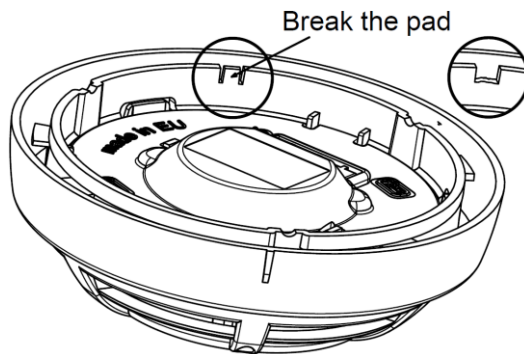

Fig.3
- Break the plastic at the indicated location at the bottom of the sensor (Fig. 3).